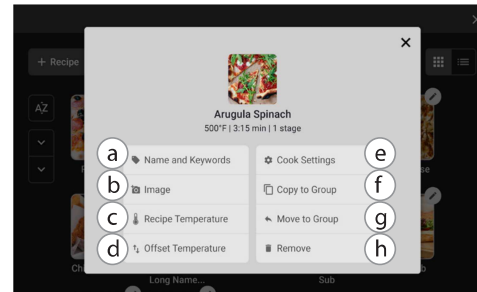

Figure 35: Edit Recipe Options
4. Select an option (Figure 35, above).